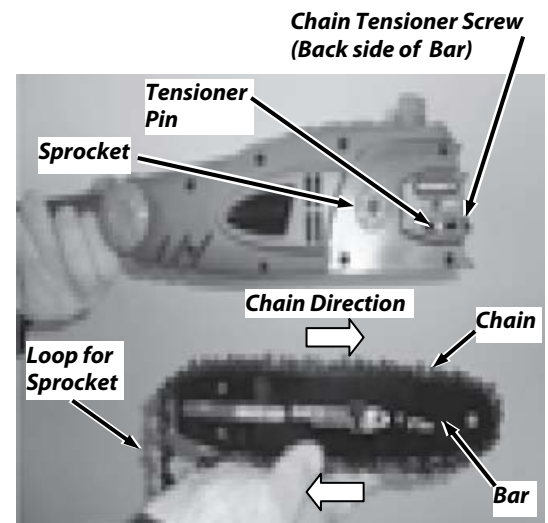

Figure 2
1. Lay out the Saw Chain in a loop and straighten any kinks. The sharp side of the Teeth should face in the direction of the Chain rotation (**Figure 2**). If they face backwards, turn the loop over.